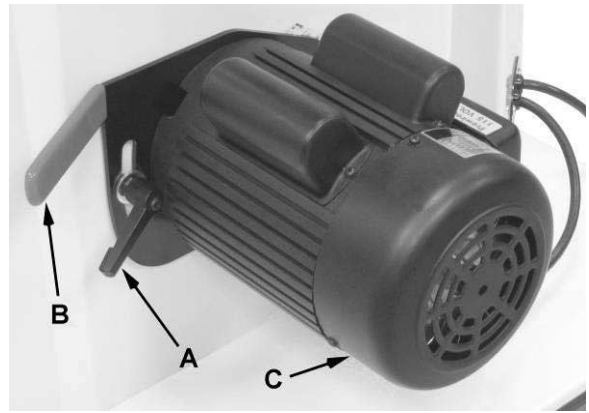

Figure 25
To change the blade speed (while referring to Figure 25):
5. Unlock *lock handle* (A, Fig. 25). Apply belt tension by slightly pushing *handle* (B, Fig. 25) down.
6. Tighten the *lock handle* (A, Fig. 25) to secure the *motor* (C, Fig. 25).
Referring to Figure 25:
8. Unlock *lock handle* (A, Fig. 25). Apply belt tension by slightly pushing *handle* (B, Fig. 25) down.
9. Tighten the *lock handle* (A, Fig. 25) to secure the *motor* (C).